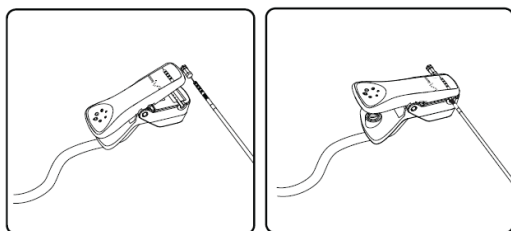

Figure 15. Connect the lead stimulation cable to the tined lead
10. Connect the tined lead test stimulation cable to the lead (**Figure 15**). Using the CP, ensure electrical connections are made with all 4 contacts.